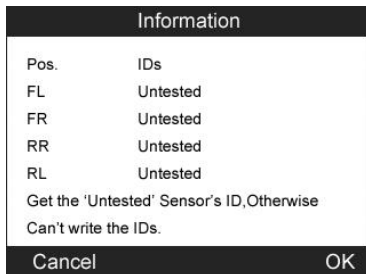

Figure 4.25
- NOTE:** *If there are untested sensors in the vehicle, the writing ID process cannot proceed. The tool will display a warning message as below.(Figure 4.25) In this case, follow the sensor check procedure to activate all sensors in vehicle and register sensor IDs again.*